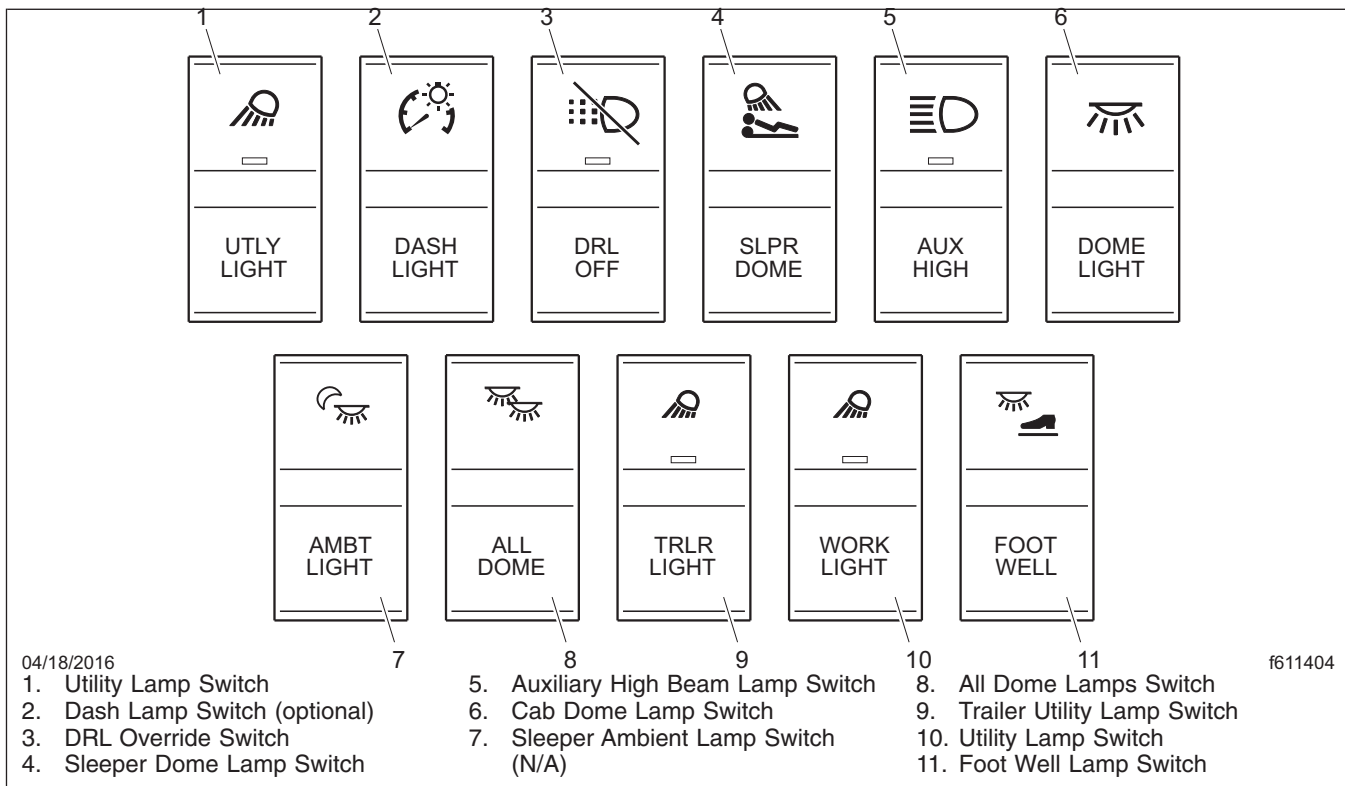

Fig. 4.6, Dash-Mounted Light Switches
If present, auxiliary high-beam lamps are located in the front bumper. To activate the auxiliary high beam lamps, press the upper part of the dash switch. The auxiliary high beam lamps illuminate only when the high-beam headlamps are on. They switch off temporarily when the low-beam headlamps are on, until the high beams are on again. Press the upper half of the switch to deactivate the auxiliary high beam lamps. See Fig. 4.6.
Daytime running lamps are mandatory for vehicles domiciled in Canada. Vehicles domiciled in any other location may have an optional override switch. See Fig. 4.6, ref. 3. This is a momentary switch that enables the driver to deactivate the DRL.